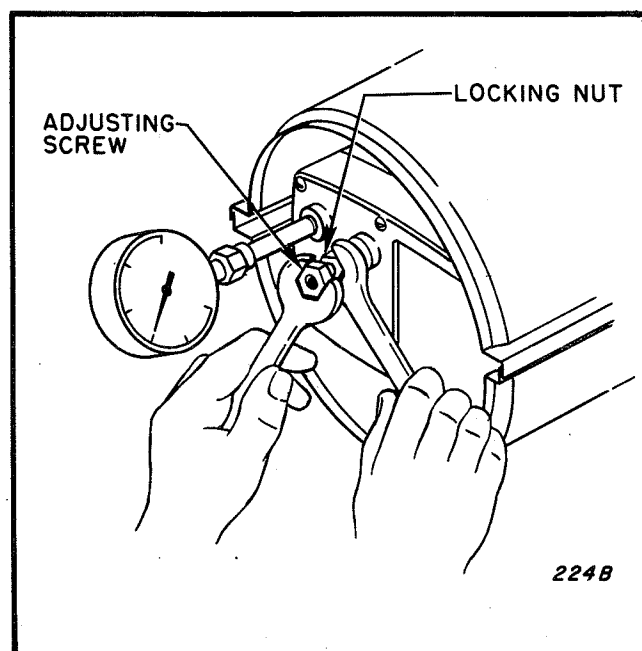

Figure 10. Checking and adjustment of Air Pump Pressure
1. Remove the plug from the air filter housing, and install the pressure gage (listed in paragraph B of this Section) into the hole. See Figure 10.